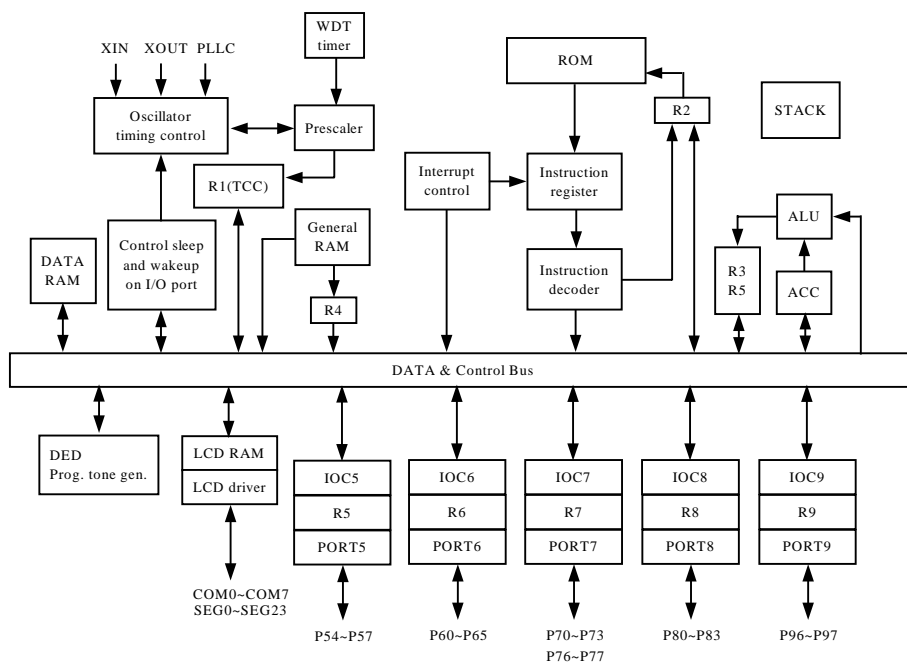

Fig.3 Block diagram 2
1.4	1.Change “VII. Instruction Set” for PAGE instruction’s Instruction Binary from “...0kkk” to “...kkkk”. 2.Updae Fig.3 Block diagram 2